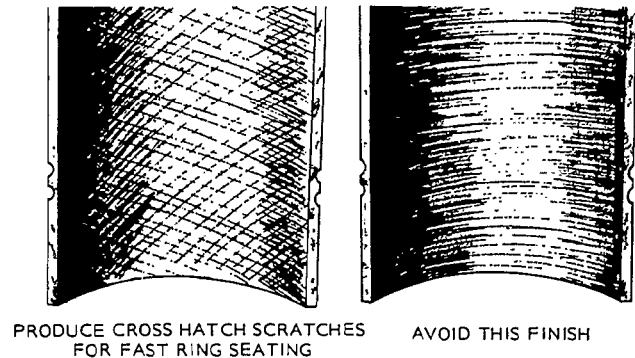

FIGURE 19. CROSS HATCHING
3. Use a slow speed drill to drive the deglazing tool. Move deglazing tool up and down in cylinder (10 to 12 complete strokes) rapidly enough to obtain a crosshatch pattern (Figure 19).